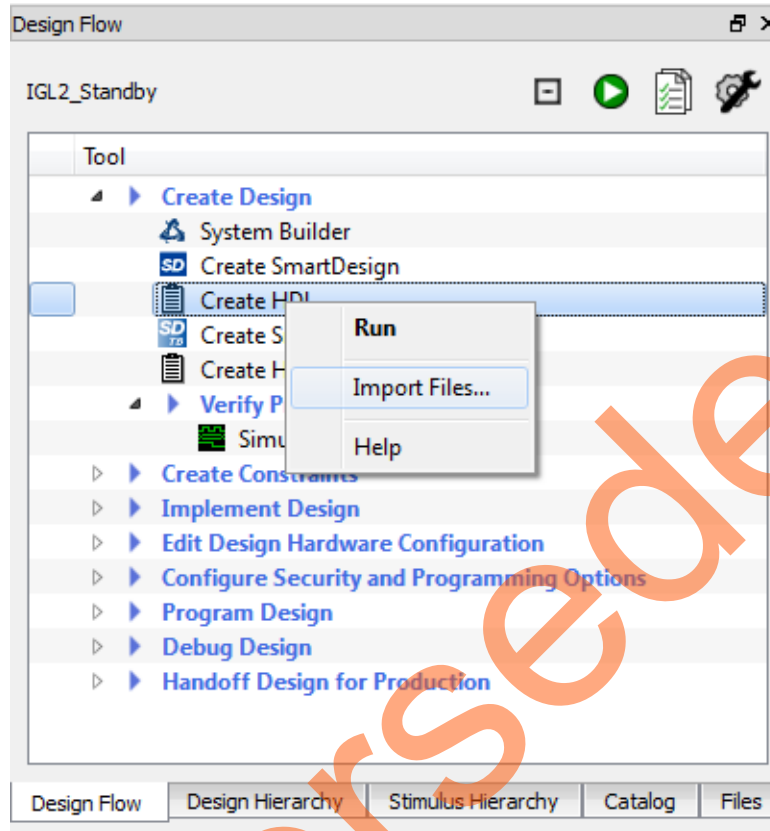

Figure 11 • Importing HDL Source Files
18. Import the VHDL source files into the project by selecting **Create HDL** under **Create Design** in the **Design Flow** tab. Right-click and select **Import Files...** (see Figure 11).